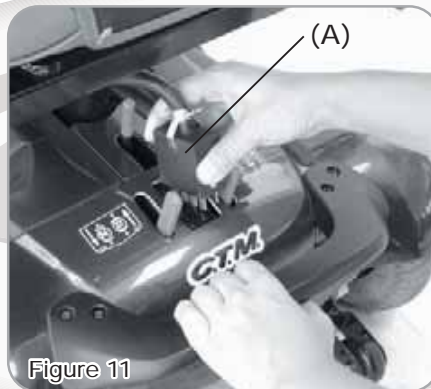

Figure 11
Unplug the Joystick Cable Connector (A) at the rear of the power chair. (See Fig. 11)